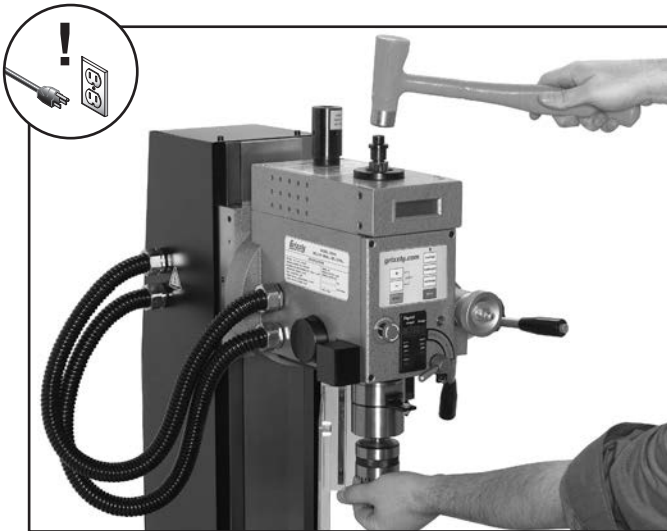

Figure 13. Tapping on the drawbar.
- Tap the top of the drawbar with the hammer. This will unseat the taper of the arbor from the spindle (see **Figure 13**).